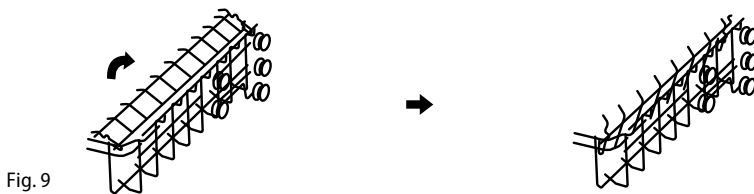

Fig. 9
- You can tilt the stand and adjust it in height (Fig.9).